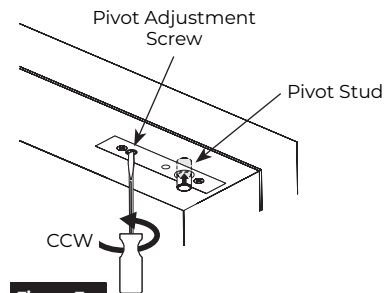

Figure 7
1. Ensure pivot stud is fully retracted into pivot by turning pivot adjustment screw counter clockwise with a flathead screwdriver. (Figure 7)